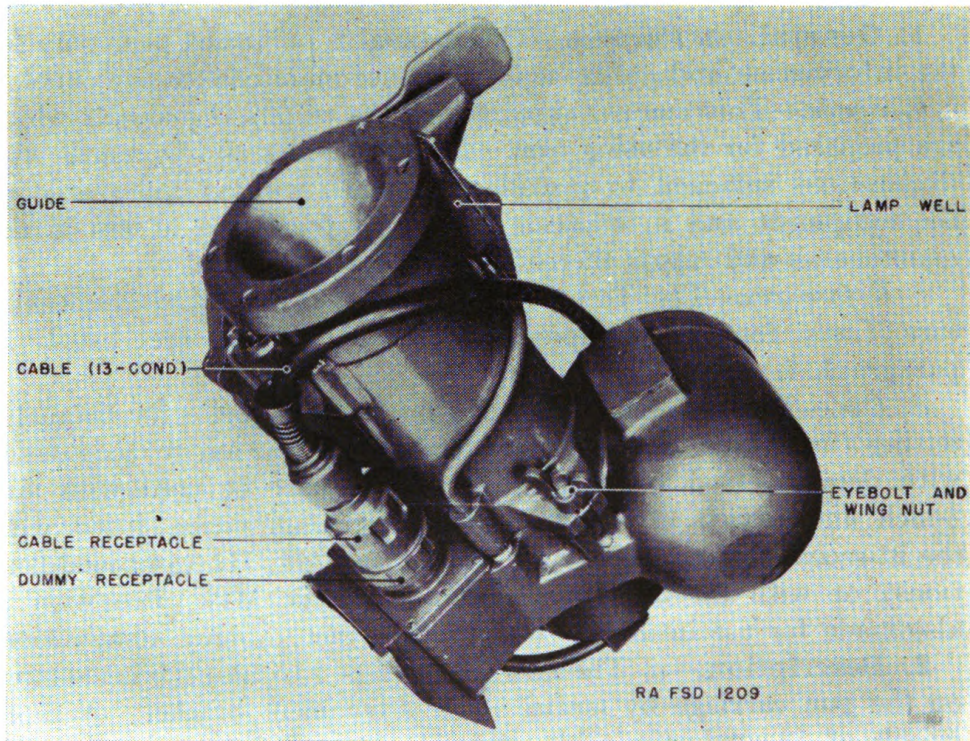

FIGURE 2.—Fuze setter, M8, right side and rear.
(3) For use in darkness, electric lamps, energized from a step-down transformer in the data transmission system, are provided in the lamp wells, one located above the guide (C69695, fig. 2) and one on each side of the fuze indicator. In addition, the mechanical and electrical indexes are filled with luminous paint.
(2) Remove cable receptacle from dummy receptacle (fig. 2) and insert it in gun junction box receptacle, screwing the large round nut tightly in place.